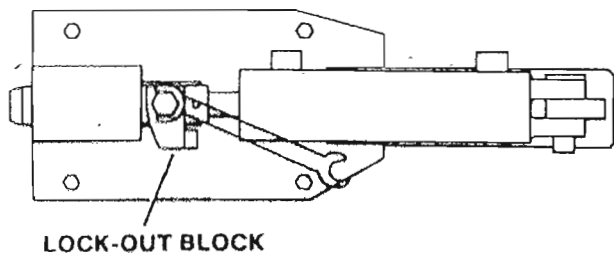

Figure 7. Disengaging Parking Brake
2. Using a 3/4" wrench, rotate lock-out block 90° (clockwise) to retract the cylinder rod. Remove wrench immediately (figure 7).